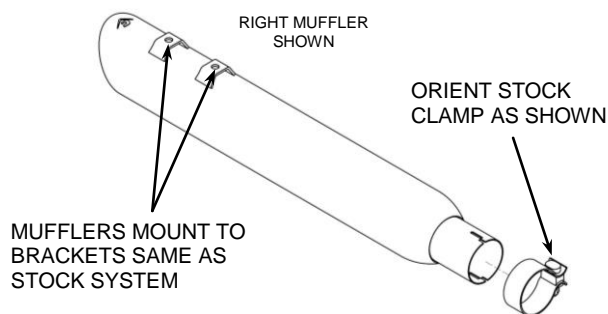

FIGURE 1
3. Slide the stock clamps over the slip-on mufflers and position them as shown in Figure 1 with the hex head facing inward and towards the ground.